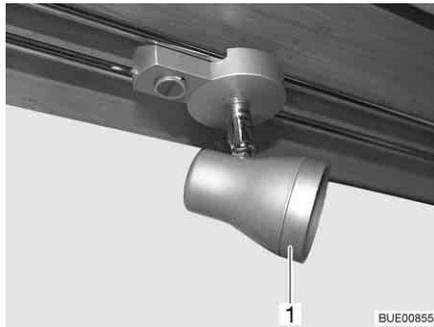

Fig. 301 Halogen spotlight (movable)
- Turn outer ring (Fig. 301,1) in an anticlockwise direction until it separates from the housing.